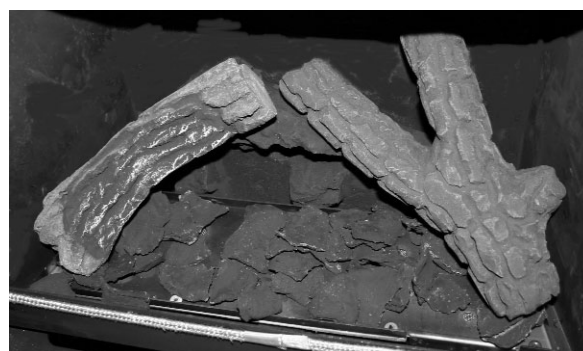

Fig. 12a
1) Position the rear log matrix in the centre at the rear of the burner. The base of the matrix should slot down behind the burner. See Fig. 12a.
2) Lay the Y shape log to the right hand side of the burner. Ensure that the Y open section is upper most and is resting onto the cutout flat area to the right of the rear log matrix. The base should be approximately 30mm from the front of the stove window opening. See Fig 12a.
3) Take the curved log and place this to the left hand side of the burner. Make sure that the base of this log is again approx. 30mm from the front of the stove and the upper end of the log is resting on the grooved notch within the rear log matrix. See Fig 12a. Note, there should be a gap between both side logs when resting correctly on the rear matrix.